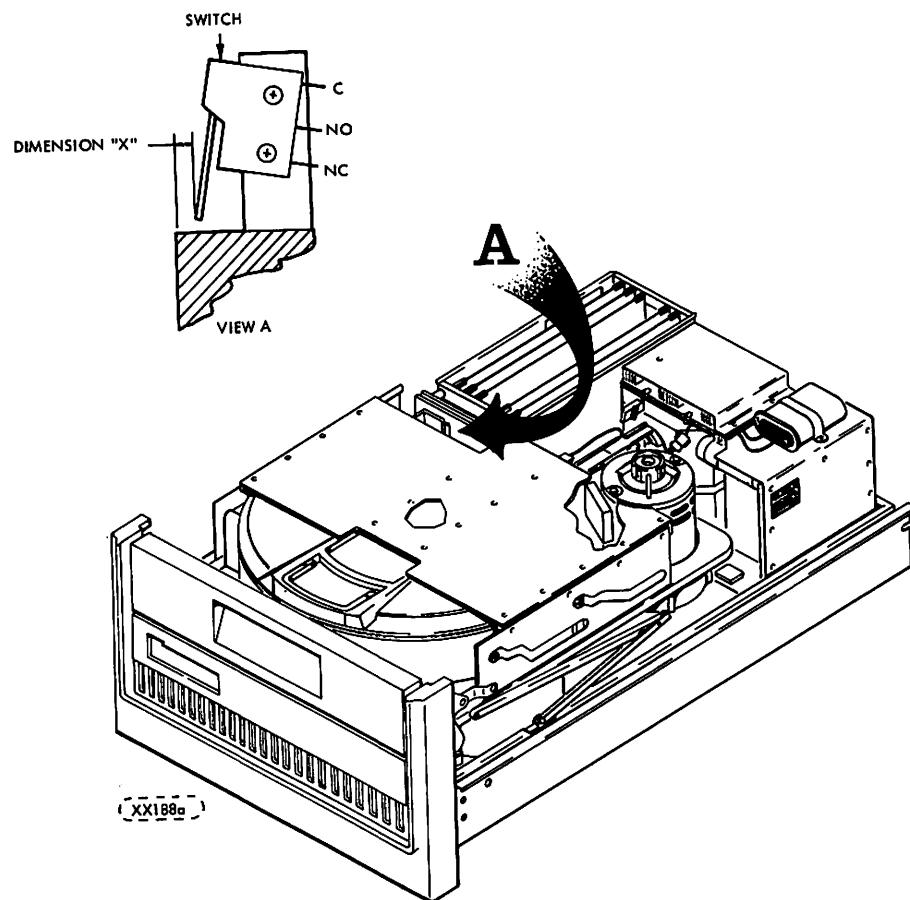

FIGURE 6-22A. CARTRIDGE-IN-PLACE SWITCH ADJUSTMENT
4. Identify the switch and leadwires. See Figure 6-22a.
5. Measure the distance "X" between the casting edge and the switch lever when the switch is at the operating position. See Note at beginning of Section 6.8.3. Dimension "X" as shown in Figure 6-22a should be 0.15 ± 1 inch (3.8 ± 0.3 mm).